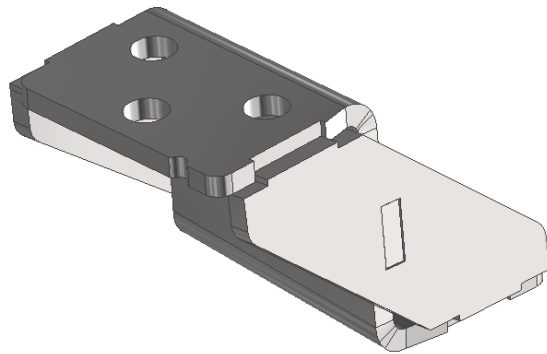

Figure 1
44. Attach the driver rear differential bracket to the vehicle using the stock hardware. Tighten with an 18mm socket. **NOTE:** Refer to **Figure 1** for the rear differential bracket needed. **See Photo 39.**